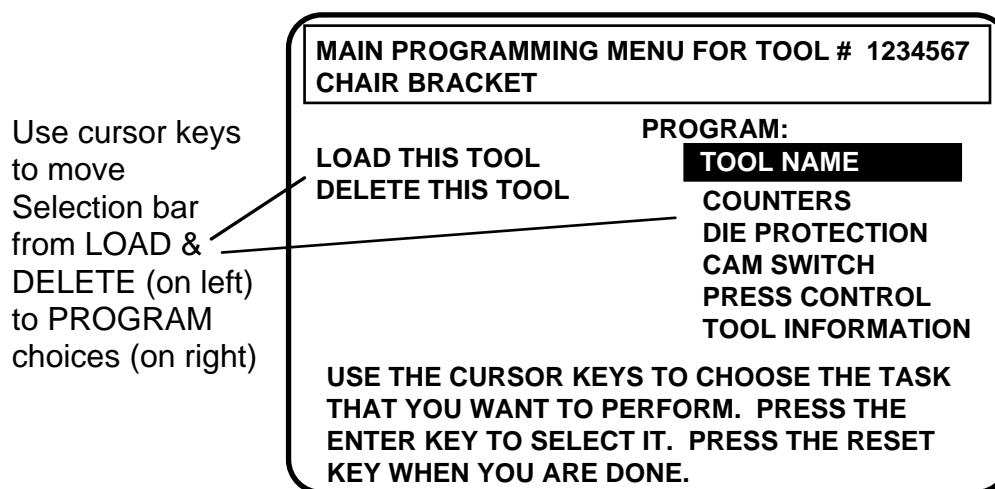

Figure 5-4. Main Programming Menu (the order may vary depending on the options installed)
This chapter describes how to use all the displays you will see in Program mode. The topics will be covered in the order that they appear on the Main Programming menu, as pictured at Figure 5-4. Specifically, it covers programmable cam-related functions, such as setting cam timing, and programming timed and auto events; and die protection-related functions, such as enabling and disabling sensors, and configuring sensors. Lastly, it covers press control-related functions, such as: setting top stop angle, minimum and maximum press speed limits, and counterbalance setpoint.
3. Press Enter after keying in the tool number. You will see the Main Programming menu display (Figure 5-4). Once you are done, go to "Set tool name".
3. Press Enter to select the tool. The next screen that appears is the "Main Programming menu" (Figure 5-4). Next, go to "Set tool name".
- Select "Counters" from the Main Programming menu (Figure 5-4):
1. You will see the Main Programming menu (Figure 5-4) after entering a new tool number or selecting an existing one. Select "Die Protection".